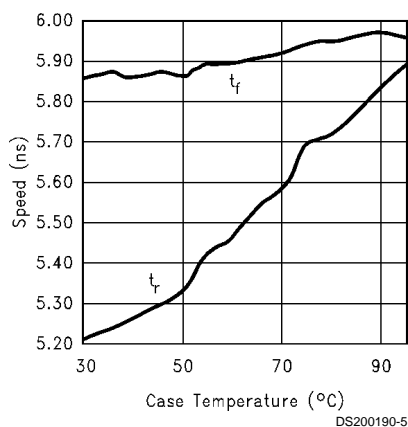

FIGURE 4. Speed vs Temperature
*Figure 4* shows the performance of the LM2465 in the test circuit shown in *Figure 2* as a function of case temperature. The figure shows that the rise time of the LM2465 increases by approximately 13% as the case temperature increases from 30°C to 95°C. This corresponds to a speed degradation of 2% for every 10°C rise in case temperature. The fall time degrades around 0.3% for every 10°C rise in case temperature.